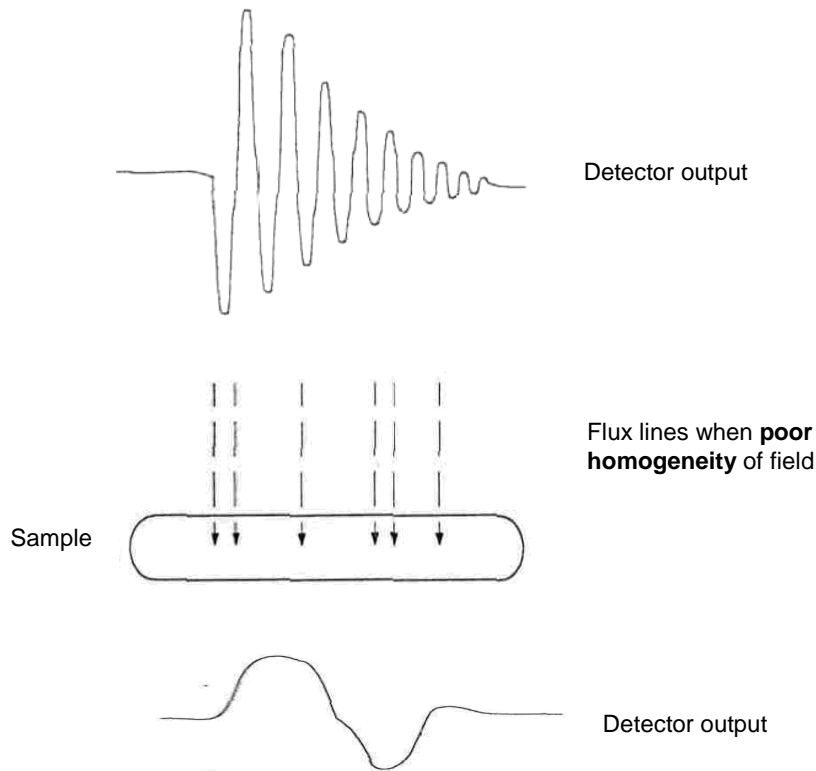

FIGURE 2.6 How magnetic field gradient affects the NMR signal
- 1) The field to be measured must have a **high degree of homogeneity** (very evenly spaced flux lines) - see Fig. 2.6. A field with very evenly spaced the flux lines is said to have low *gradient*. In fields with low gradient the majority of elements in the probe will be resonating simultaneously, creating an NMR signal with large amplitude and narrow width. But as gradient becomes higher there will be more resonant frequencies and the overall NMR signal will have lower amplitude and greater width. At some point the signal quality will become too poor to process.